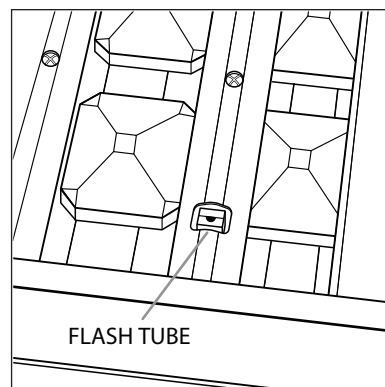

Figure 2-11. Flash Tube Position
1. Place the briquette trays into the grill above the burners with the flash tube at the front (See Figure 2-11).